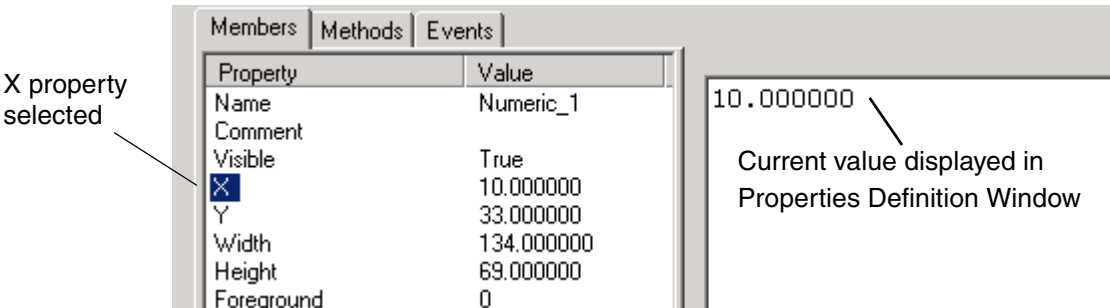

Figure 20. Editing a Property
2. Click on the X property. When this property is selected, the current value is displayed in the Properties Definition window, Figure 20.